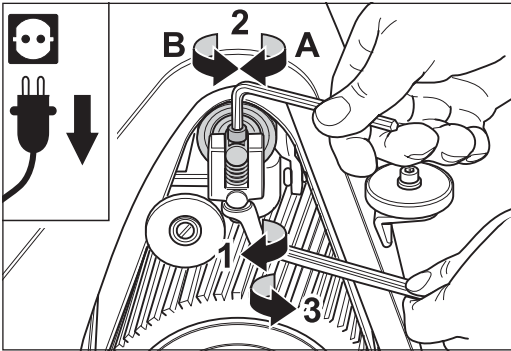

Fig. 80 Adjust the sanding belt tracking at the setting screw of the drive unit (see description on the right).
- 6** If readjustment of the tensioning roller is necessary, release the lock nut at the drive unit (fig. 80, 1) and adjust the tensioning roller with the screw (fig. 80, 2):
- 7** If the sanding belt tracking is seen to be correct after adjusting once, tighten the lock nut again (fig. 80, 3).